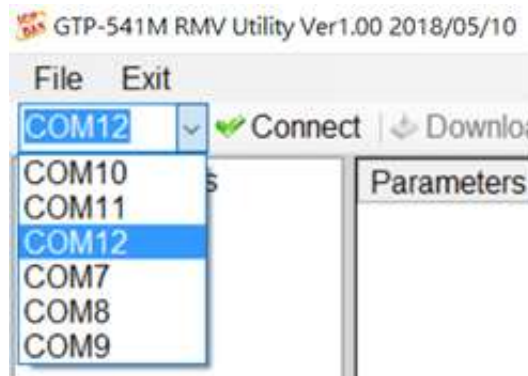

Figure 7.2.1
1. Select the COM Port number of RS-232 / RS-485, as shown in Figure 7.2.1.